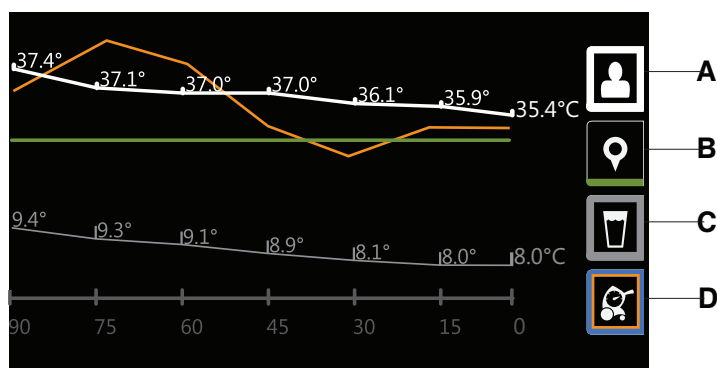

Figure 20 – Graphical display
- Primary patient temperature reading from attached probe (A) (Figure 20)
- Intermediate target temperature (B)
- Water temperature (C)
- Power level (D)